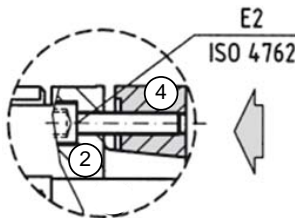
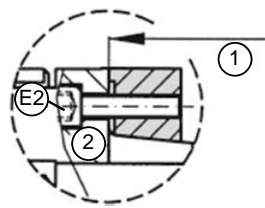

Figure 5
Figure 6
- ◆ Please make sure that the clamping screw(s) of the coupling half is/are released and that the clamp collar (Figure 5, Pos.4) and the coupling hub (Figure 5 Pos.2) are pulled apart.
Tighten the fixing screws Figure 5, Pos.E2) crosswise with a torque wrench in 3 turns with 1/3, 2/3 and full tightening torque until the final tightening torque (see table) is attained and the clamp collar touches the coupling half. The dead stop (Figure 6, Pos.1) on the coupling half (Figure 6, Pos.2) prevents too high pretension of the conical clamp collar and ensures high rotational accuracy.
Figure 5 parallel housing
- ◆ Remove lid (Figure 5 Pos.4) and screws (Figure 5 Pos.11).
- ◆ Loosen all tensioning screws of the clamping bushing (Figure 5 Pos.20) (approx. 3 mm).
- ◆ Loosen motor fixing screws (Figure 5 Pos.6).